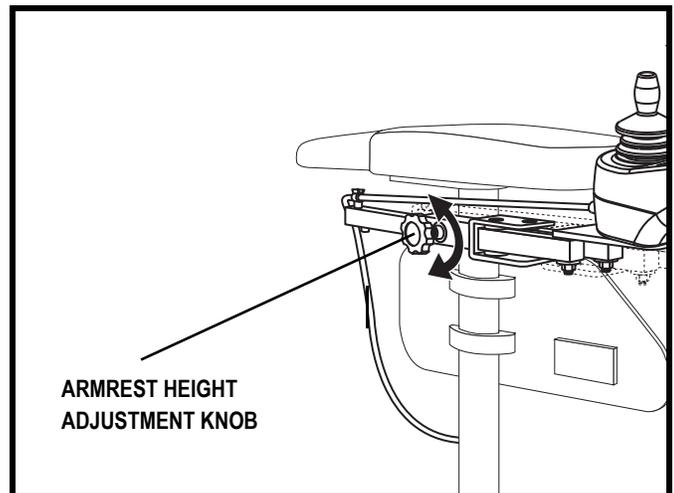

Figure 18. Armrest Top Height Adjustment
1. Loosen the armrest height adjustment knob by turning it anticlockwise. **See figure 18.**